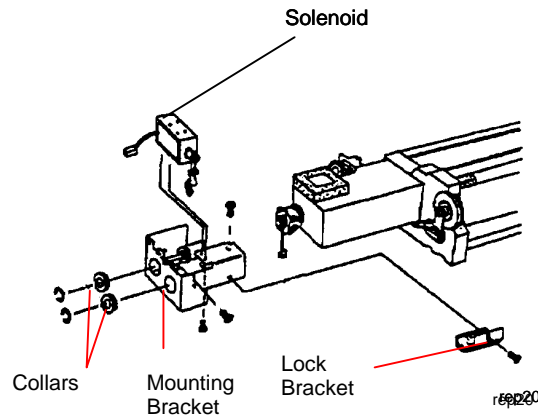

Figure 1. Removing the Solenoid
2. (Figure 1): Remove the screw and the Lock Bracket.